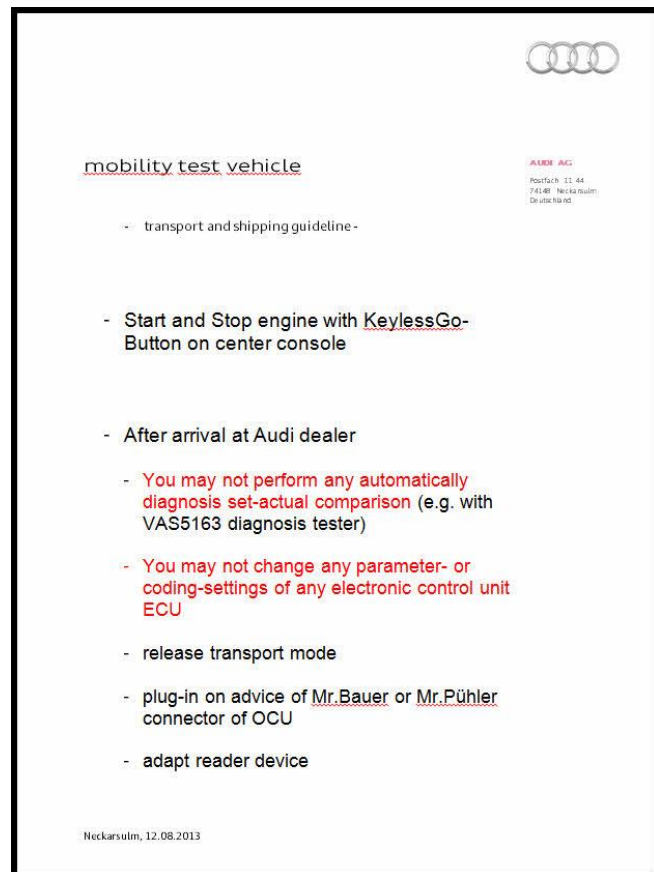

Figure 1. Warning message posted inside of vehicle.
- There may be a warning posted inside of the vehicle at the time of delivery from the port (Figure 1).